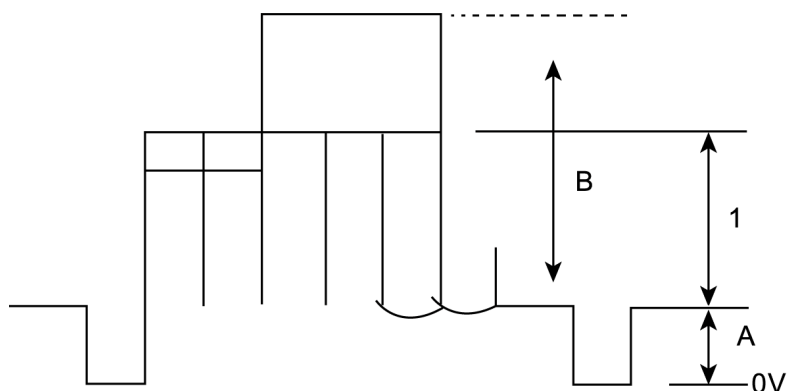

Fig. 4
6. Set (A) to $2.3 \pm 0.2V$ by BRT (CHK2) at measurement point TPL 2 Fig. 4.
1. Connect oscilloscope probe to TPL 5 (G OUT) with 10k Ω series resistor and adjust Contrast so that (B) as in Fig. 4 is $1.95 \pm 0.2V$.
2. Adjust "Sub Colour" so that waveform as in Fig. 4 (1) $2.5 \pm 0.1V$.